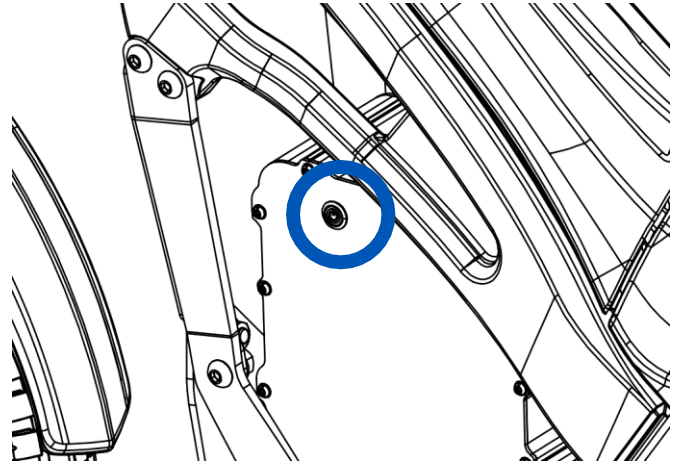

Fig. 14
- 2- Turn off the battery (Figure 14).